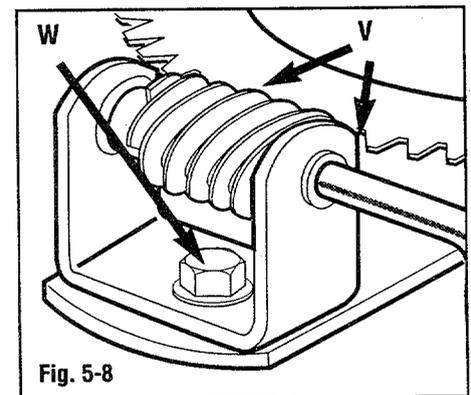

Fig. 5-8
2. Remove bolt (W, Fig. 5-8) securing the worm gear and support (V) to the unit. Remove the worm gear and support (V).
2. Adjust and tighten any belt guides loosened earlier during step 5, "REMOVAL". Adjust the belt guides 1/16" (1mm) away from the wheel drive belt (R) when the belt is tight.
3. Move the auger housing and the frame/handlebar assembly together and position the auger drive belt (S) around the drive pulley on the engine (T).
4. Secure the auger housing and the frame/handlebar assembly together with the four flange screws (X) removed earlier.
5. Adjust and tighten any belt guides (U) loosened earlier during step 4, "REMOVAL". Adjust the belt guides 1/16" (1mm) away from the auger drive belt (S) when the belt is tight.
6. Position the worm gear and support (V, Fig. 5-8) back in place on the unit. Secure the worm gear and support with bolt (W).